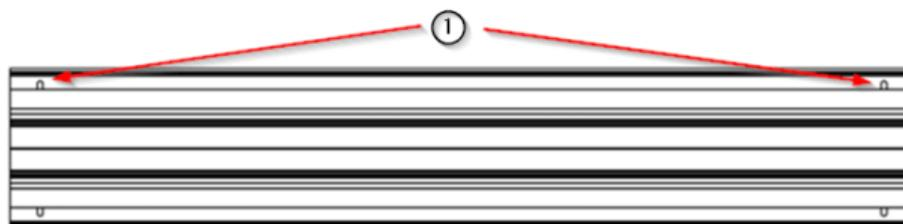

Fig.6 Anchor points of the N270 equipment
For the installation of the equipment there are two rows of anchorage points at the rear of the equipment. The number and distance of these anchor points will vary depending on the length of the device and is defined in the corresponding installation drawing supplied with the device. See Fig. 6.
- Locate the equipment anchor points ① indicated on the accompanying installation drawing (see Fig. 6).
- Fasten the device at the two upper anchor points ① as shown in figure 6 without tightening definitively, but only in order to secure the device to the mounting surface with the appropriate screws.
- Locate the equipment anchor points ① indicated on the accompanying installation drawing as shown in Figure 6.